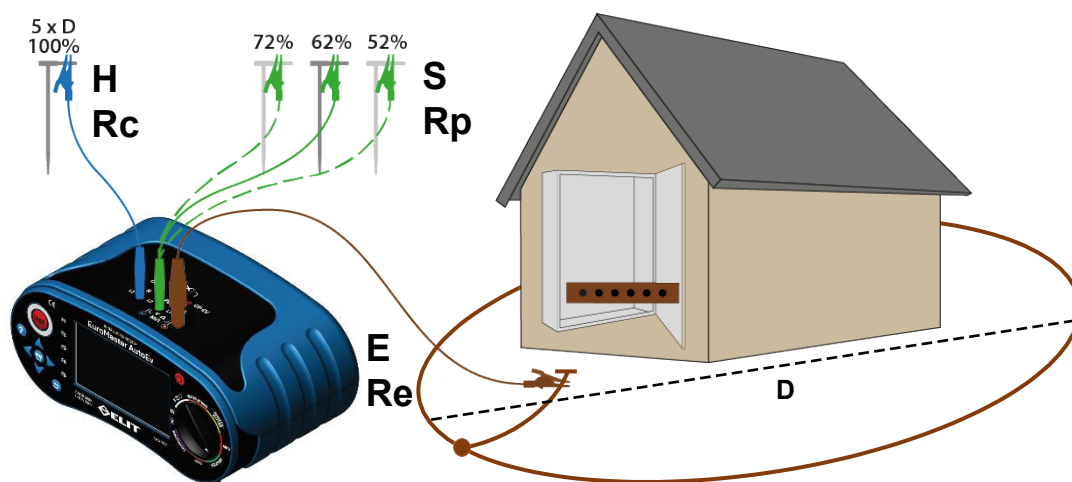

Figure 6.8.5 Earth Resistor 3Pole connection.
- IV. Connect the L(E), PE(S), and N(H) terminals to the measurement position as shown in Figure 6.8.5.